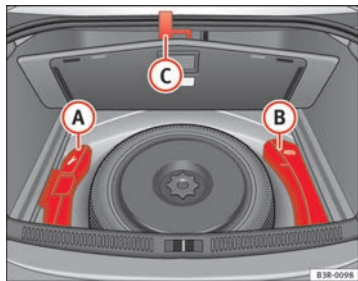

Fig. 176 Toolbox and jack
The tools (A) and jack (B) ⇒ fig. 176 are stored under the floor panel in the luggage compartment.
- Hook the handle (C) onto the luggage compartment weather strip.